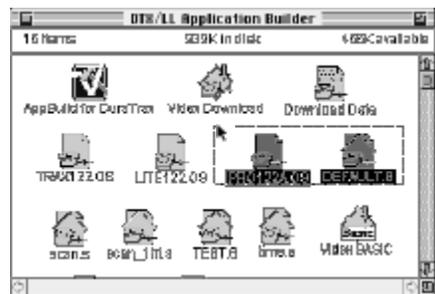

Figure F-5 Operating System and Application Files Selected
- 7) Resend the operating system software to the LaserLite Pro, by selecting the operating system file (**Pro122a.OS**) and an application file (**Default.s**) (Figure F-5).